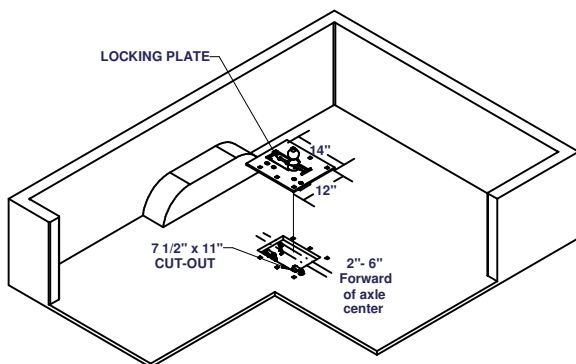

FIGURE 2
3. Mark an 7 1/2" x 11" cut-out to be used for flush mounting the fold-down hitch ball. (**Figure 2**).
4. The hitch ball must be centered in the truck bed (**Figure 2**). Offset the cut-out to the drivers side keep the ball centered.